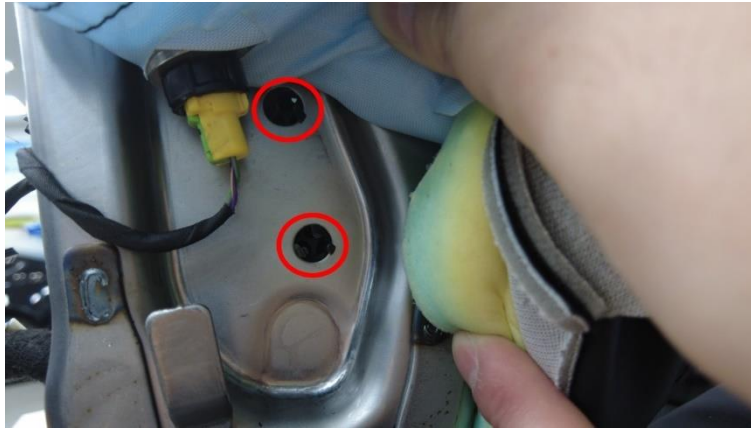

Figure 14
13. Release the clips (x2) that attach the lumbar pump to the seat frame (Figure 14).